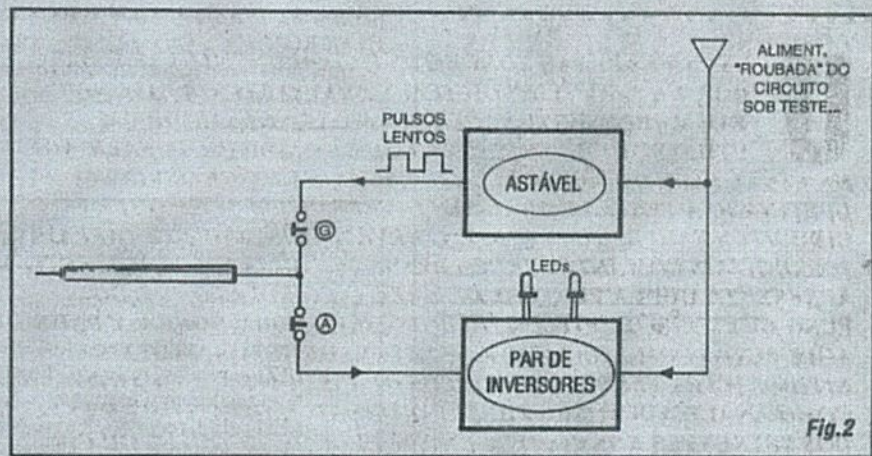

Fig. 2
- FIG. 2 - DIAGRAMA DE BLOCOS (PARA ENTENDER MELHOR...)